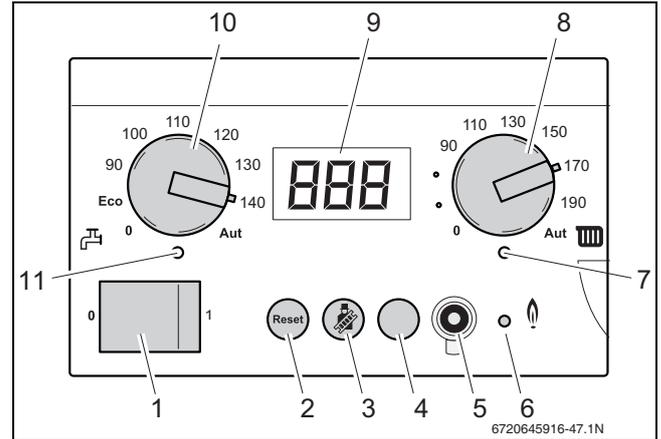

Fig. 66 BC10 basic controller
- ▶ Switch ON the appliance by pressing the main switch of the BC10 basic controller (→ fig. 66, [1]).
- ▶ Press and hold the “Chimney sweep” button (→ fig. 66, [3]) (approx. 2 seconds), until the dot in the right-hand bottom corner of the display (→ fig. 66, [9]) appears (→ table 12, page 29).
- ▶ After the LED “Burner operation” (→ fig. 66, [6]) has lit up wait for 1 minute until the boiler is burning at full load.
- ▶ Press the “Service” button (→ fig. 66, [4]) repeatedly until the temperature reading is shown in the display.
- ▶ Press the “Chimney sweep” button (→ fig. 66, [3]) to clear the reading (→ table 12, page 29).
- ▶ Press the “Chimney sweep”  button (→ fig. 66, [3]) to clear the reading (→ table 12, page 29).
- ▶ Switch OFF the appliance by pressing the main switch of the BC10 basic controller (→ fig. 66, [1]).